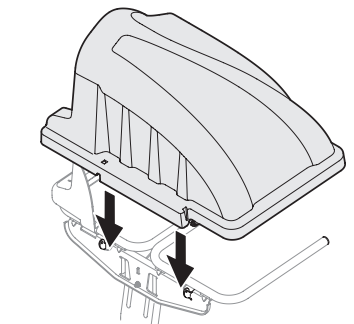

Figure 14
5. Install the bagger cover onto the hanger assembly, as seen in Figure 14. The cover goes inside the two mounting tabs.